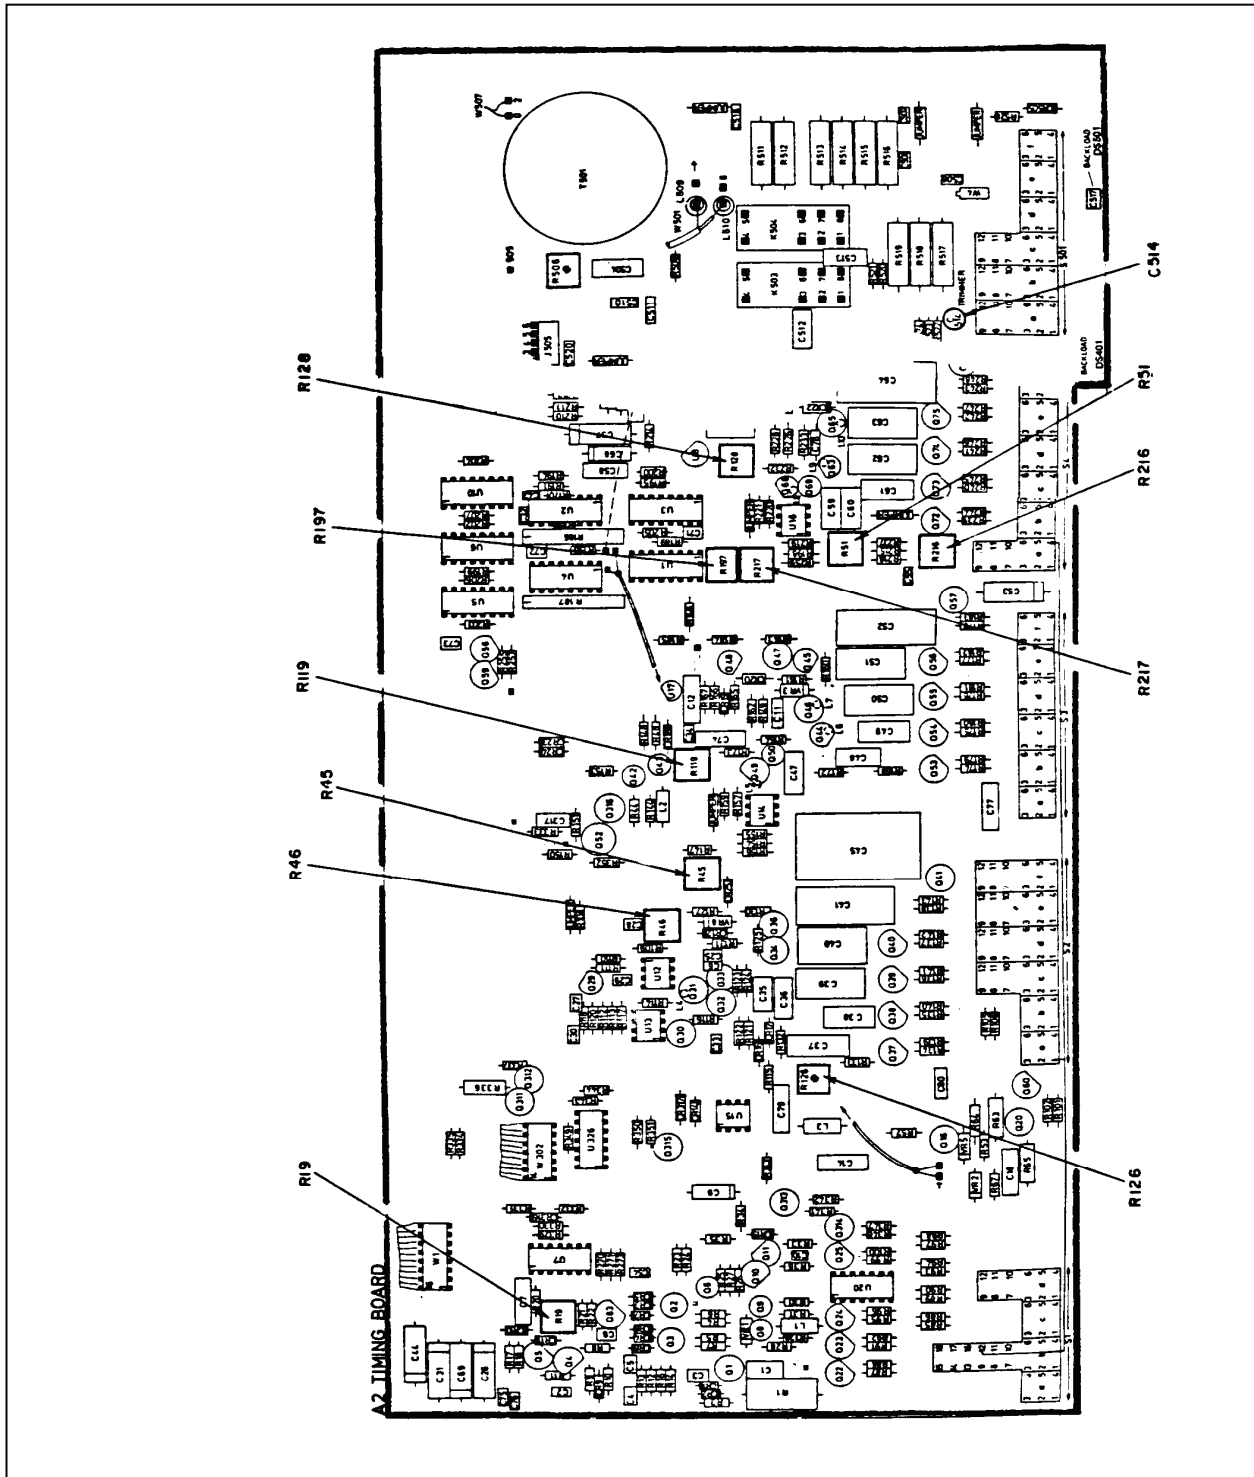
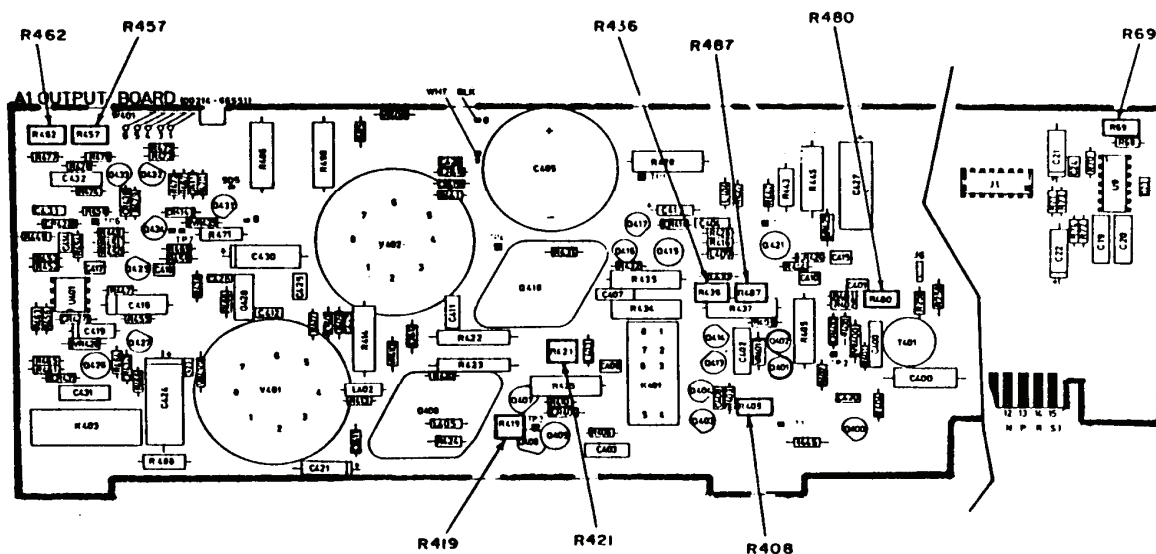

Figure 1. A2 (timing board) adjustment locations (top forward view).
Figure 2. A1 (amplifier board) - adjustment locations.
- (1) Position controls as listed in (a) through (g) below:
- (2) Adjust R126 (fig. 1) for 12.5 MHz indication on frequency counter (R).
- (3) Set **PERIOD VERNIER** dial to **1** and then to **10**. If frequency counter does not indicate between 8.9 and 11.1 MHz for vernier setting of 1, and between 0.8 and 1.2 MHz at 10, readjust R126.
- (4) Position controls as listed in (a) through (e) below:
- (5) Adjust R69 (fig. 2) for a frequency counter indication of 1000 μ s (R).
- (6) Set **PERIOD VERNIER** dial to **1**.
- (7) Adjust R46 (fig. 1) for a frequency counter indication of 100 μ s (R).
- (8) Set **PERIOD VERNIER** dial to **10** and repeat (5) through (7) above for best in-tolerance condition.
- (2) Connect **TRIG OUTPUT** to frequency counter input, using 50 Ω termination. Connect **OUTPUT** to frequency counter **B** input.
- (3) Adjust R45 (fig. 1) for a frequency counter indication between 990 and 1010 μ s (R).
- (4) Set **PULSE POSITION VERNIER** dial to **1**. Adjust R119 (fig. 1) for a frequency counter indication between 90 and 110 μ s (R).
- (5) Set **PULSE POSITION VERNIER** dial to **10** and repeat (3) and (4) above for best in-tolerance condition.